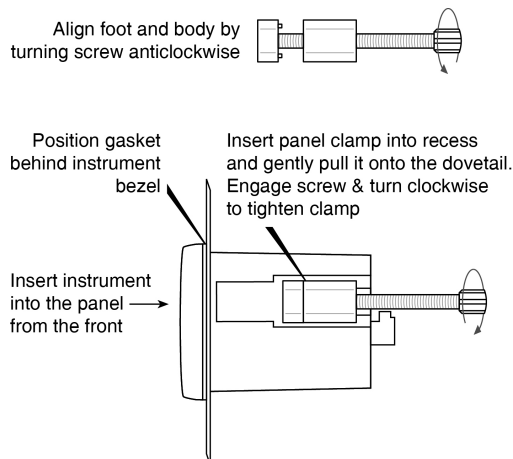

Fig 12 Fitting panel mounting clamps
- d. Place a clamp in the recess on each side of the instrument, pulling gently to slide it onto the dovetail as shown in Fig 12. Push the knurled screw slightly forward to engage the thread and tighten by turning clockwise until it is just finger tight. When the clamps are fitted ensure that the gasket behind the front panel bezel is correctly positioned before fully tightening the clamps to secure the instrument. The maximum recommended clamp tightening torque is 22cNm (1.95 lbf in) which is approximately equivalent to finger-tight plus one half turn. **Do not over tighten.**